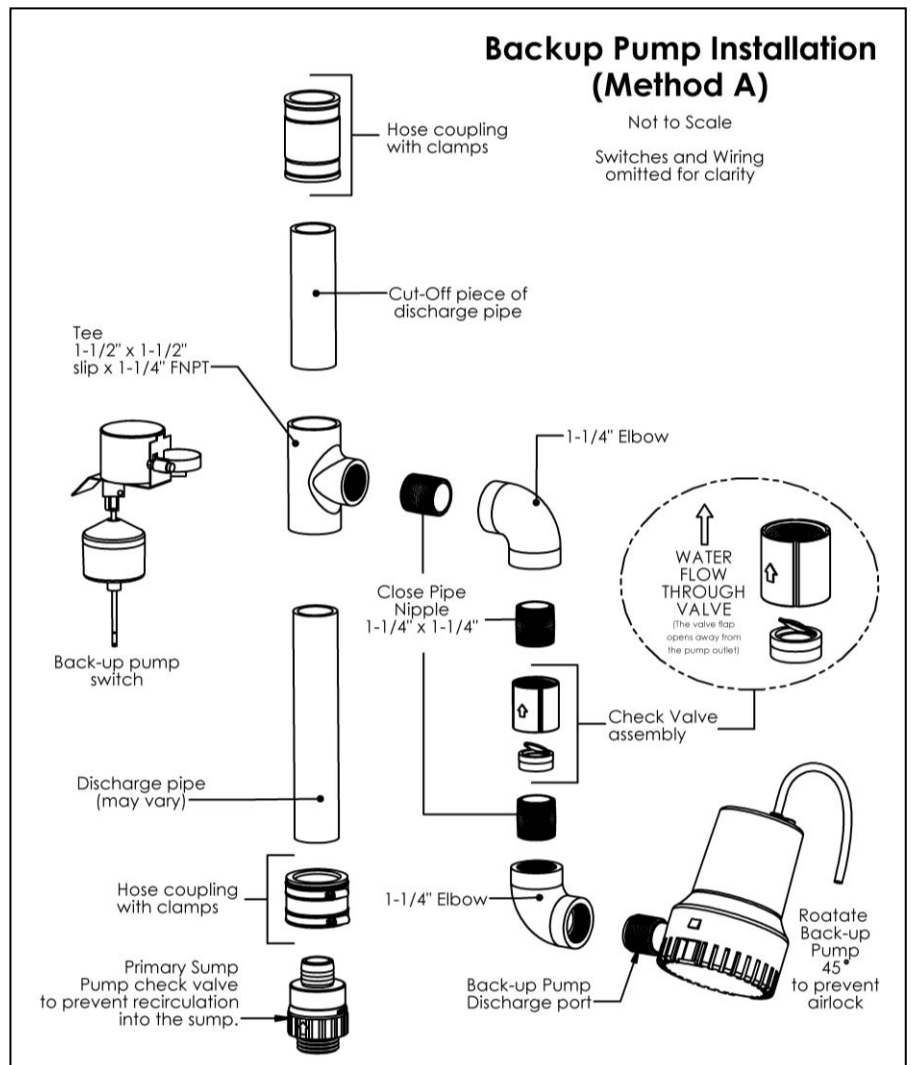

Figure 4 – Method A installation diagram
The recommended method suggests installing both of the pumps on the floor of the sump pit. See Figure 4. The minimum required sump basin diameter, at the bottom of the pit and the recommended depth of the sump basin is 18”.
NOTICE: Make sure the check valve is installed in the correct direction. See the inset drawing in Figure 4.
10. Install a short length of pipe into the top of the check valve in the primary pump discharge. See Figure 4.